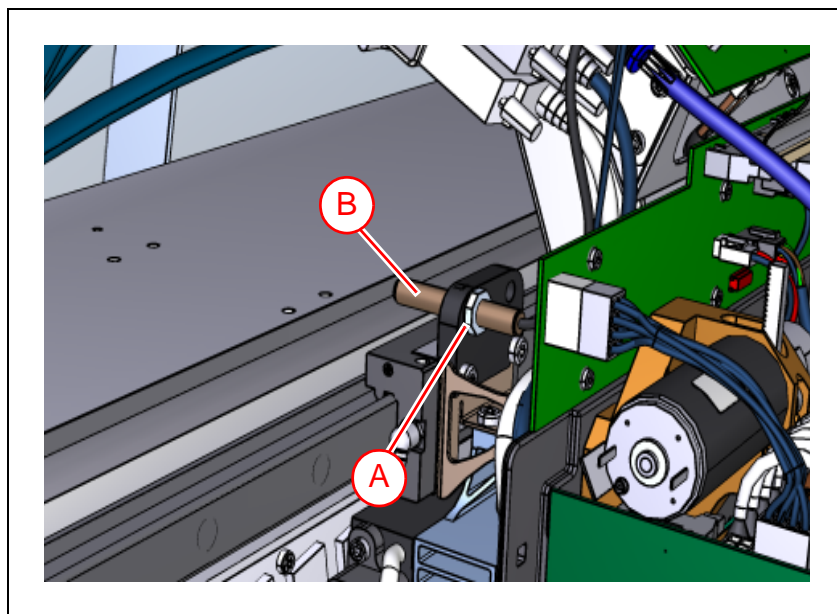

Figure 5-15. Adjusting the ATA sensor position.
2. Start adjusting the ATA sensor ('A' in Figure 5-15) on the left X wagon (MY100 DX) or right X wagon (MY100 SX). Place the X wagon in the middle of its two outer positions on the X beam.